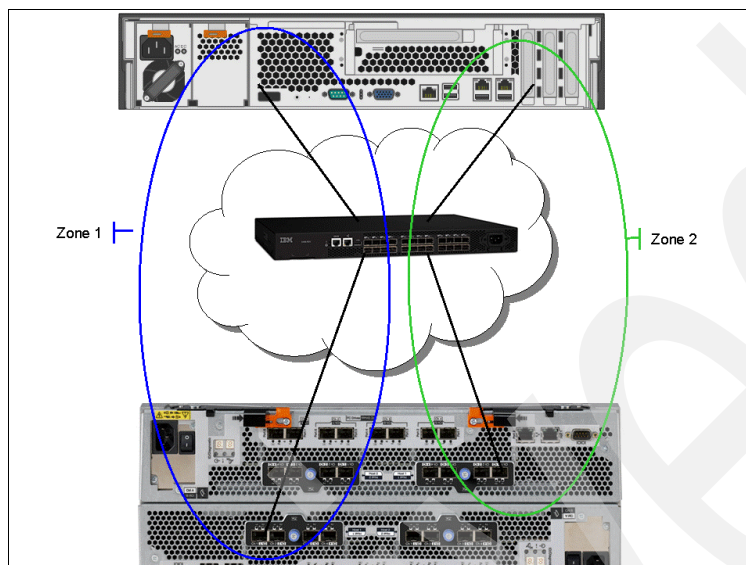

Figure 5-54 Zone up the secondary path
1. Connect a fiber cable from the DS5000 storage subsystem controller B to the FC switch (Figure 5-54).